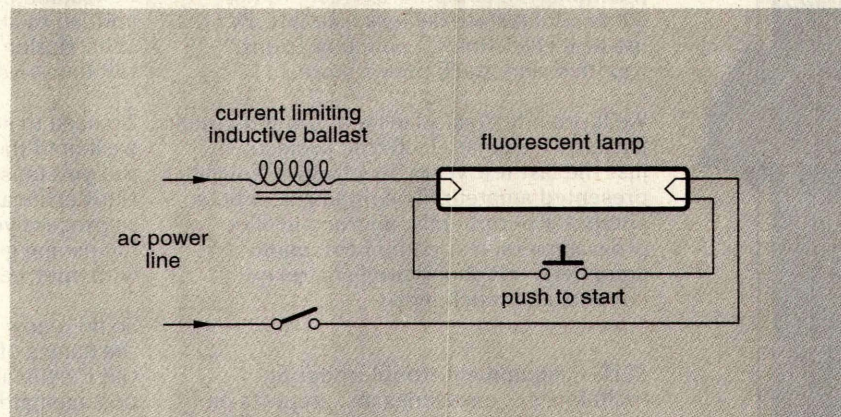

**FIG. 1—FLUORESCENT LAMP BALLAST** can offer you "lossless" inductive reactance current limiting.
**FIG. 1**—METROWERKS' CODEWARRIOR PROVIDES three tools for building applications: A user-interface builder (the Constructor, shown here), a code editor and project manager (the IDE), and a source-level debugger.
However, the bottom line is that once it becomes clear how all the various and sundry pieces fit together, CodeWarrior for the Pilot is a pretty solid tool. For ease of access to all the tools and documentation files, I created a folder on the desktop with shortcuts to the three development tools, five WinHelp files, and eight PDF files, as shown in Fig. 1.
For example, in Fig. 1 we see an inductor known as a ballast being used to limit current to an older single-fluorescent-bulb desk lamp. There are three steps to the operation: Both switches are initially closed. The lamp's filaments both light, heating the emitters in the bulb. The inductor behaves as a reac-